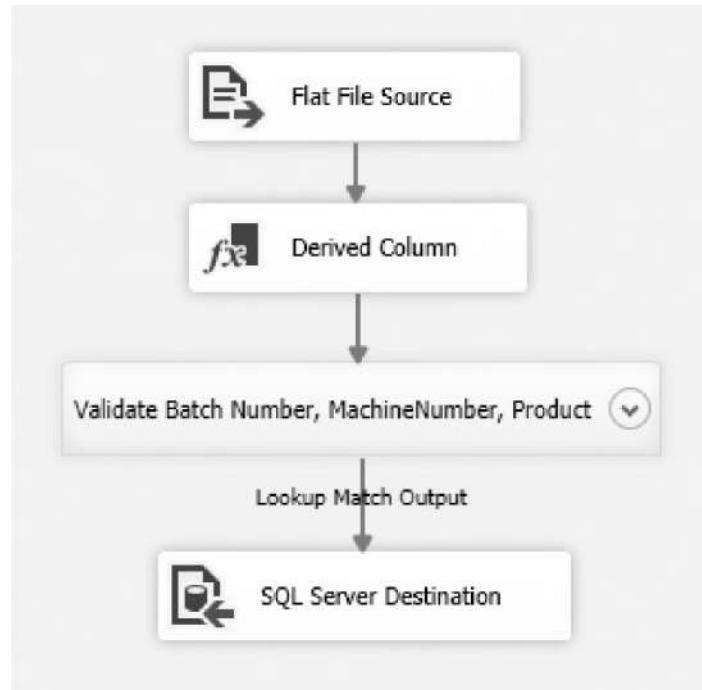

Figure 8-19 The data flow to load the Manufacturing fact table with the Validation Grouping
24. Rename the Group item to **Validate Batch Number, MachineNumber, Product**. The Data Flow should appear similar to Figure 8-19.